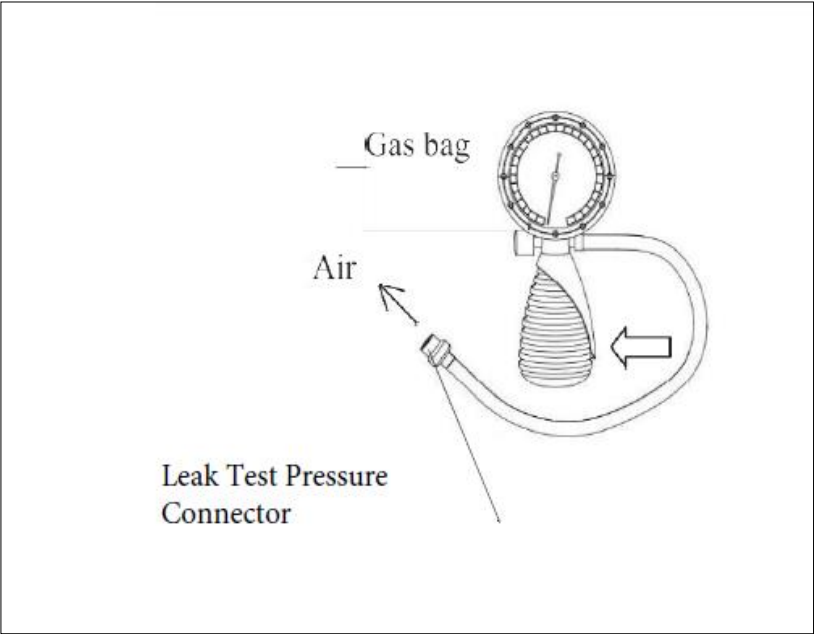

Fig 7.2 Leakage tester
(See Fig 7.2)
2. Press the gasbag, confirmed that the leakage tester exhausts the air from the connector (see Fig 7.2).